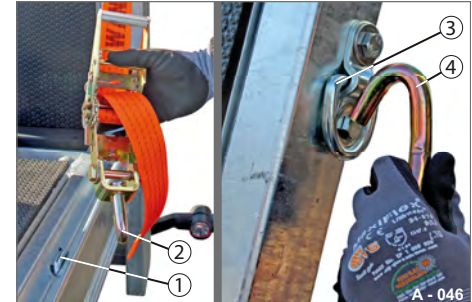

Fig. 65 Disengaging the hook
- ▶ Remove the hook (Fig. 65/2) from the lashing shackle (Fig. 65/1).
- ▶ Remove the hook (Fig. 65/4) from the lashing eye (Fig. 65/3).